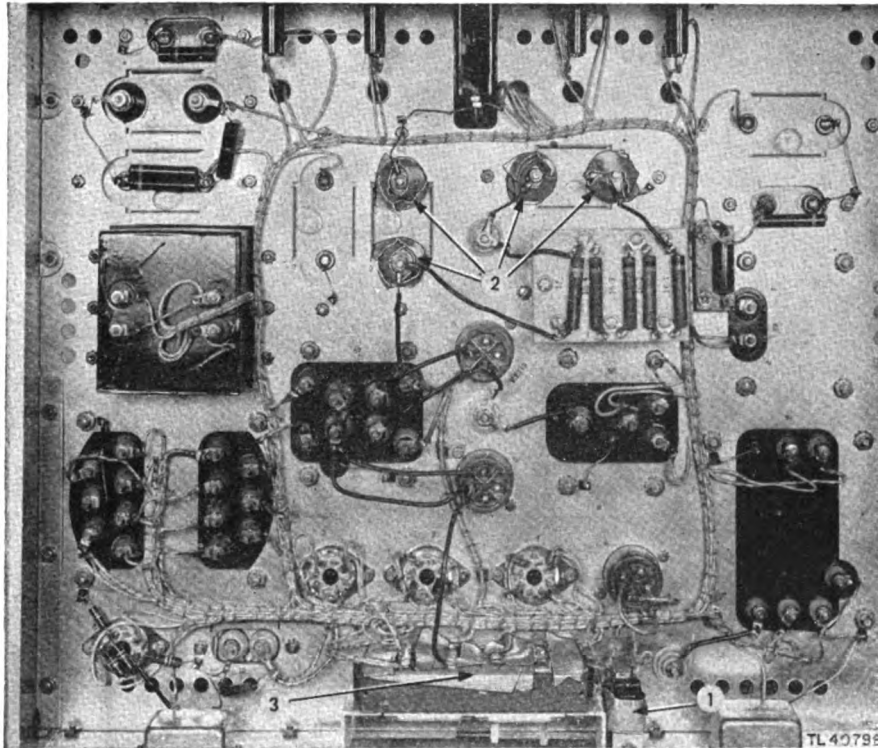

Figure 55. Power Supply RA-105-A—bottom view showing masked parts.
f. **STEP-BY-STEP INSTRUCTIONS FOR POWER SUPPLY RA-105-A.** (1) *Disassembly.* Loosen the four knurled captive screws on the front of the chassis and pull out the chassis.
(2) *Masking* (figs. 55 and 56). With masking tape, mask the moving parts① of the interlock switch, the ceramic bushings② of capacitors 6-1 and 6-2, and a 1-inch radius of the ceramic surface③ around pins 11 and 15 of the Lapp receptacles.